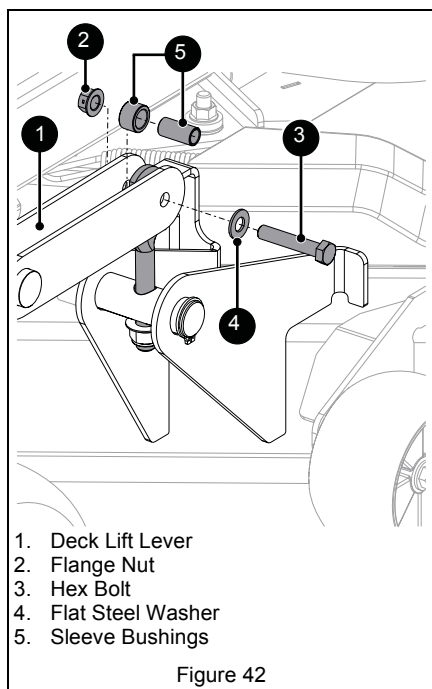

Figure 42
8. Remove one flange nut, one hex bolt, one flat steel washer and two sleeve bushings from deck lift lever. Retain hardware. See Figure 42.